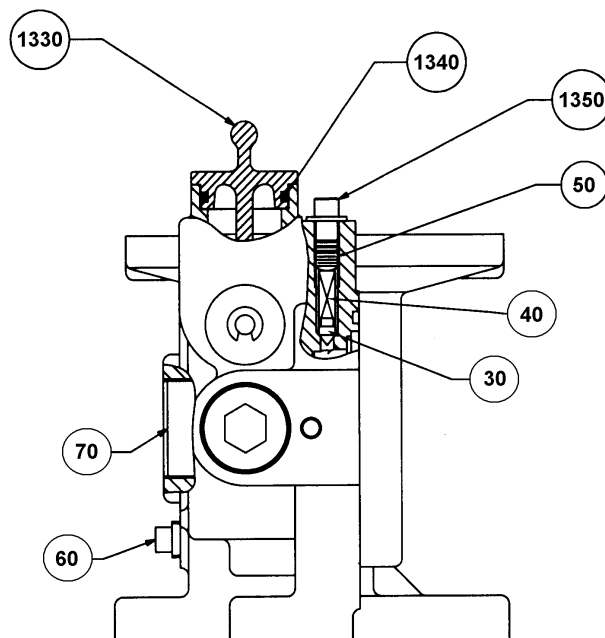

**Figure 18. Common Parts - mRoy A & B Side View and API Motor Mount
4.9.4 Motor and Worm Replacement (Figures 18 & 19)
4.9.5 Control Spool O-Rings Replacement (Figure 18, 20, & 21)
1. Place new O-rings (150) on control spool (160) and coat O-rings liberally with grease to hold them in place.
4.9.6 Worm Gear Replacement (Figure 18)
4.9.7 Connecting Rod and Plunger Replacement (Figure 18)
REFERENCED, SEE FIGURE 18 FOR PUMP
6.3 BASIC PARTS LIST FOR DRIVE MODELS “RA”, “RH”, “RJ”, AND “RP” (FIGURES 18 & 19)